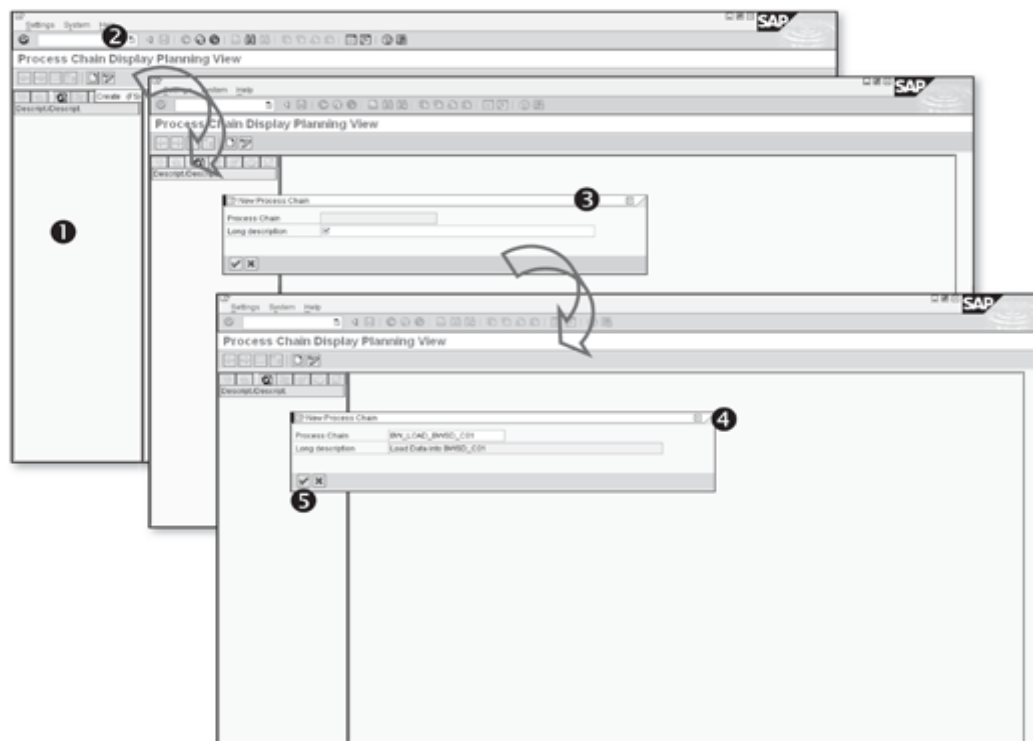
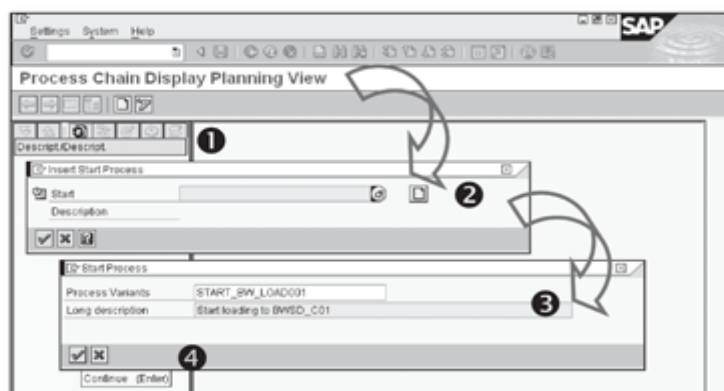

Figure 14.29 Create New Process Chain (Part I)
Figure 14.30 Process Chain — Create Start Variant
Choose the Process Chain Maintenance icon from the DWW toolbar, or use Transaction RSPC. The system takes you to the Process Chain Display Planning View screen (❶ of Figure 14.29).
Click on the Create icon (❷), and a New Process Chain pop-up box appears. There are two fields, Process Chain and Long Description (❸ of Figure 14.29). Use the following inputs (❹):
Click the Continue icon to confirm the entries (❺ of Figure 14.29), and the Process Chain Selection dialog box appears (❶ of Figure 14.30). The system automatically opens a pop-up box for inserting a start process (❷ of Figure 14.30).